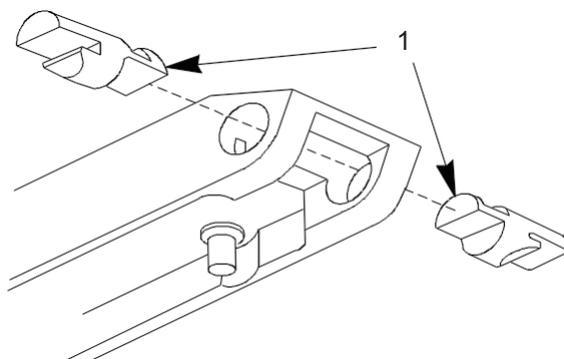
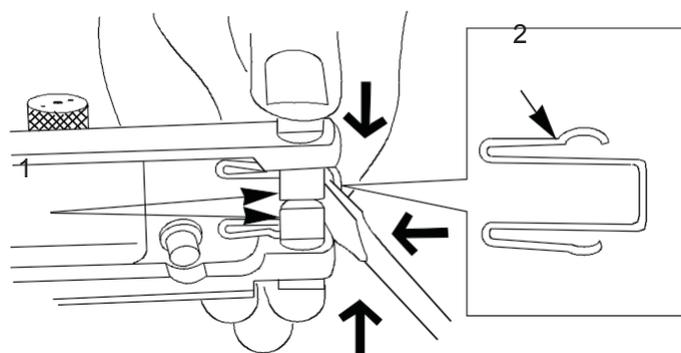

Figure 50. Cover Latches
Figure 51. Cover Latches, Retaining Clip.
23. Install cover latches (Figure 50, Item 1) with finger grip ends out and flats down. Center cover latches (Figure 51, Item 1) and install retaining clip (Figure 51, Item 2).